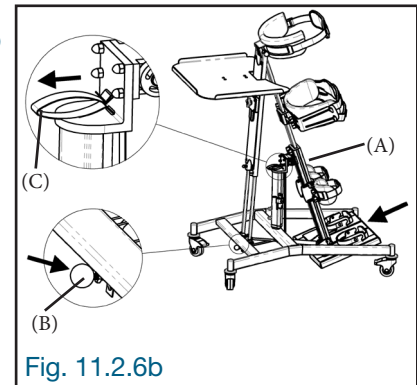

Fig. 11.2.6b
To return the device to the vertical position, apply slight pressure with the tip of the foot on the lever (B) or pull on the actuation strap (C), and push the frame (A) to return it to the vertical position. Release the pressure on the lever (B) once the frame (A) is in the vertical position (Fig. 11.2.6b).